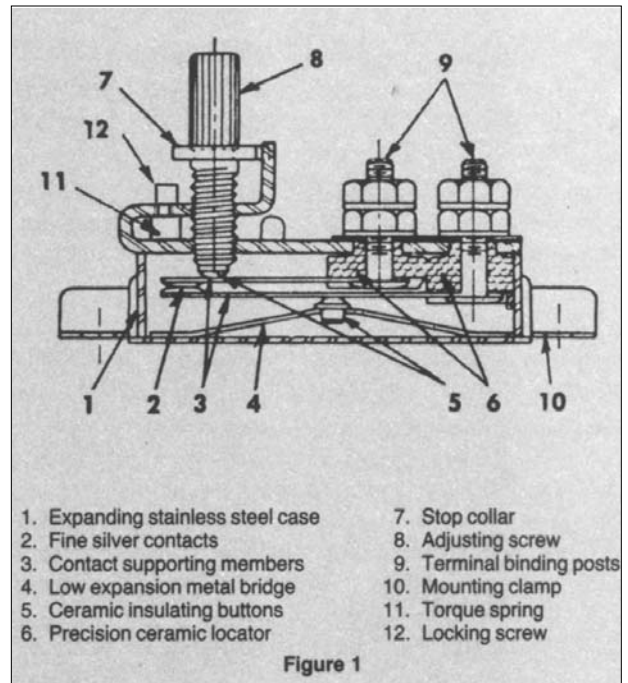

Figure 1
The Series 30000 Surface Mounting THERMOSWITCH® Controller consists of a stainless steel case (1) and cover welded together to form a one piece unit. See Figure 1. The low expansion metal bridge (4) is welded to each end of the bottom of the case. An increase in temperature causes the case to expand, lengthening the bridge and causing its downward motion. The bridge normally holds the spring-biased contact supporting members (3) in a closed position. The motion of the bridge permits the contacts (2) to break when the required temperature is reached.